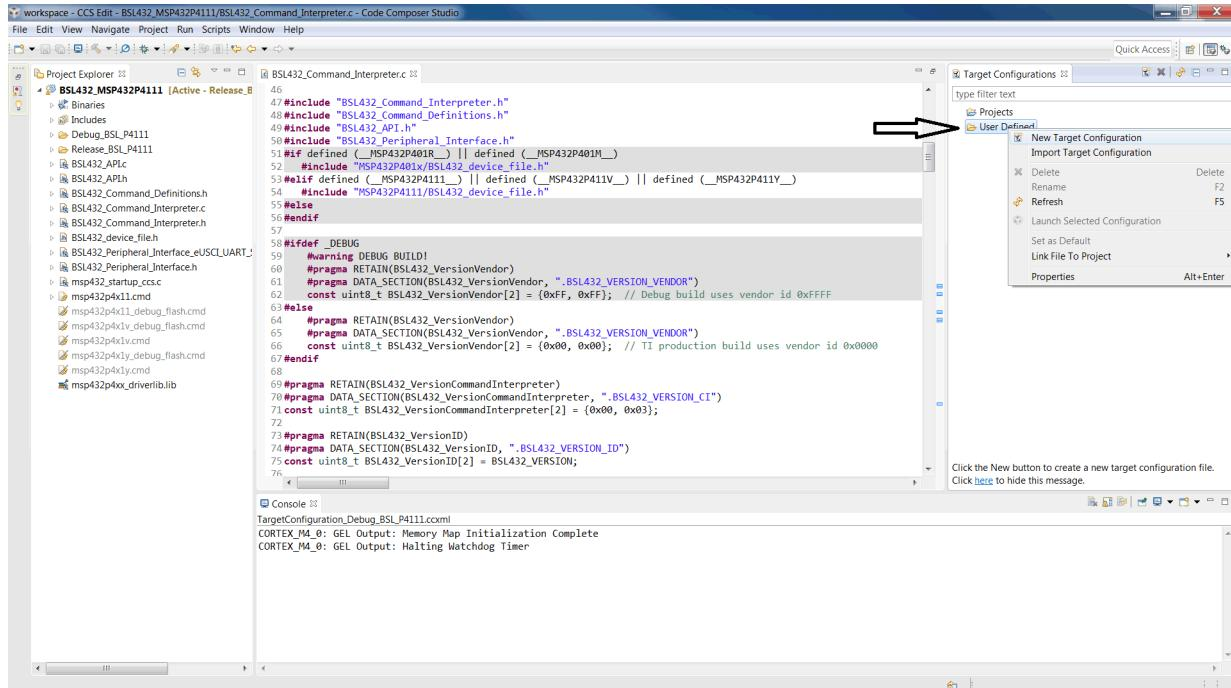

Figure 11. New Target Configuration
2. Right click on the *User Defined* folder, and choose *New Target Configuration* (see Figure 11).